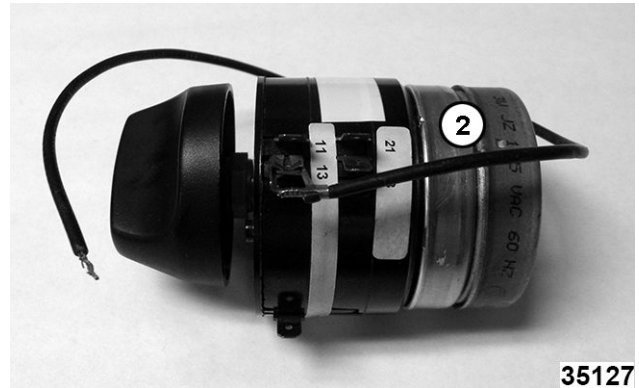

Fig. 2
Mallory Timer (2) Shown in Fig. 2